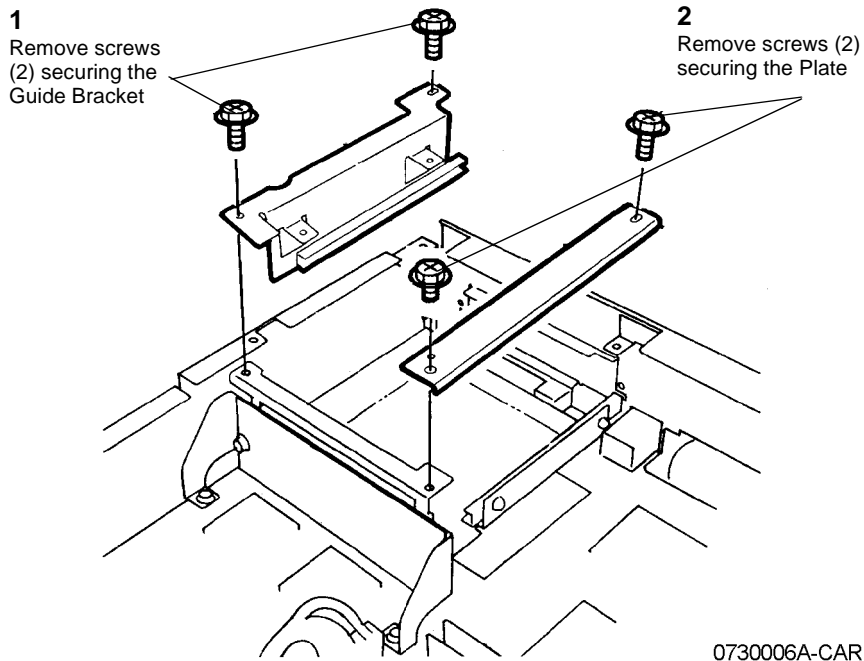

Figure 2 Removing Guide Bracket and Plate
7. Remove the Guide Bracket and the Plate (Figure 2).